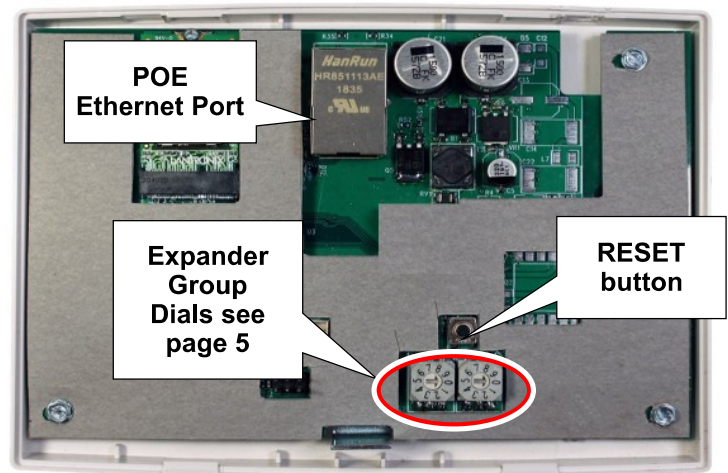

Fig. 4: "RESET" button and two "Expander Group dials"
1. With the gateway front housing removed, note the **POE ETHERNET PORT** and the **RESET** button (refer to Fig. 4). Using an ethernet cable connect the **POE ETHERNET PORT** to a specified POE injector or POE switch, allowing 30 seconds for the gateway to power up.